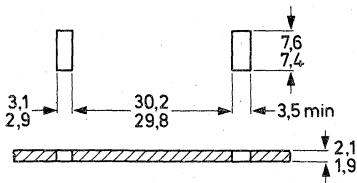

Fig. 2a Heatsink requirements.
2. Push the short end of the clip into the narrow slot in the heatsink with the clip at an angle of  $10^\circ$  to  $20^\circ$  to the vertical (see Figs 2a and 2b).